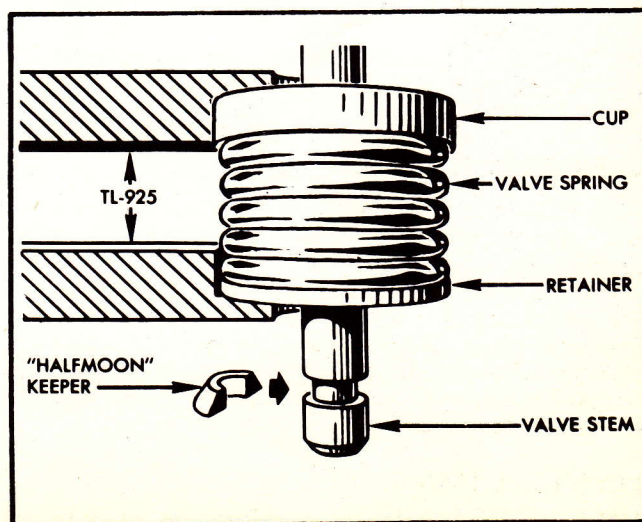

Figure No. 15
5. Use TL-925, valve spring compressor (or hold the springs with a screw driver) and lift out the keepers with needle nosed pliers. (See Figure No. 15.)